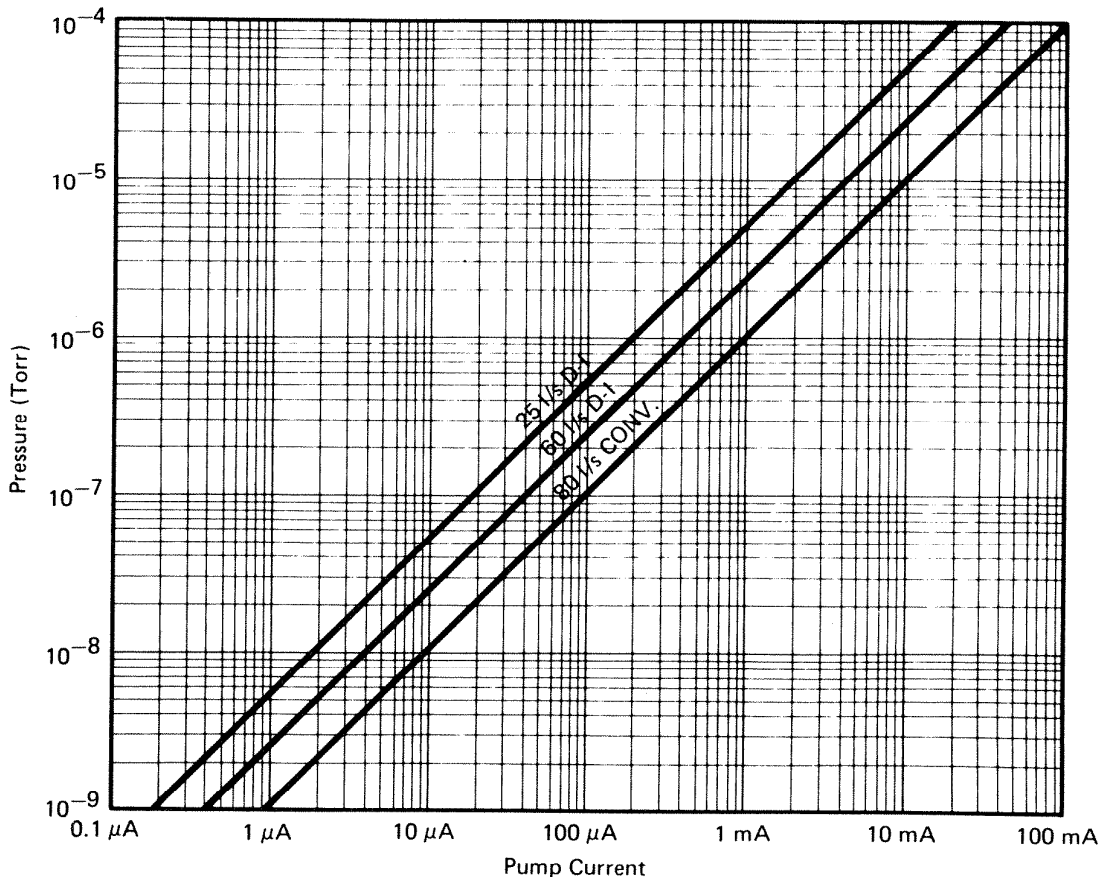

FIGURE 5. CURRENT-TO-PRESSURE CONVERSION CHART 25-80 L/S PUMPS
2. Convert current reading to pressure with the calibration curve appropriate for the pump size being used (see Figures 5 to 8).
4. From the conversion charts (Figures 5 to 8) determine the current for 10^{-5} Torr and 10^{-8} Torr. This value depends on the size of the pump with which the control unit is used.